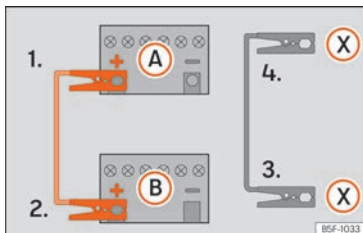

Fig. 50 Diagram of connections for vehicles with Start-Stop system.
- 4b. *In vehicles with a Start-stop system:* connect one end of the *black* jump lead (X) to a suitable ground terminal, to a solid piece of metal in the engine block, or to the engine block itself »» Fig. 50.
5. Connect the other end of the *black* jump lead (X) to a solid metal component bolted to the engine block or to the engine block itself of the vehicle with the flat battery. Do not connect it to a point near the battery (A).